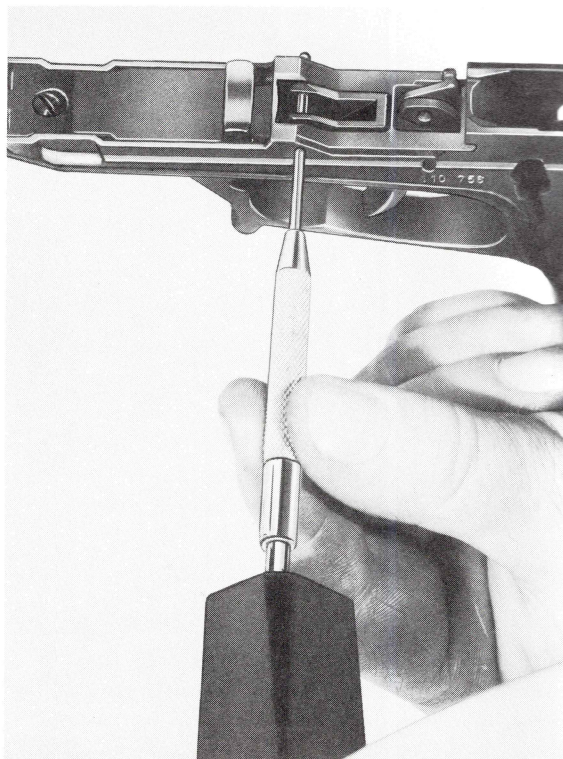

Fig. 26
- Drive out cylindrical pin (6) for the barrel clamp (Fig. 26), remove the barrel clamp (7) and compression spring (8).